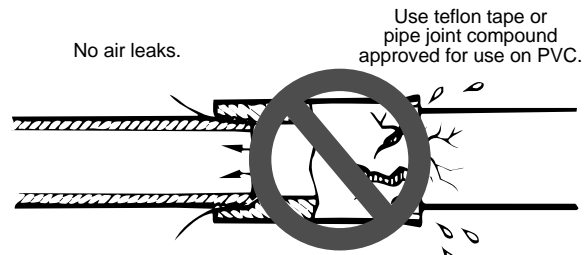

Figure 4 – Suction Pipe Must Not Leak Air In or Water Out
- No air leaks in suction pipe. Keep pipe straight. Suction pipe inlet must be lower than pump inlet port. (Fig. 4)